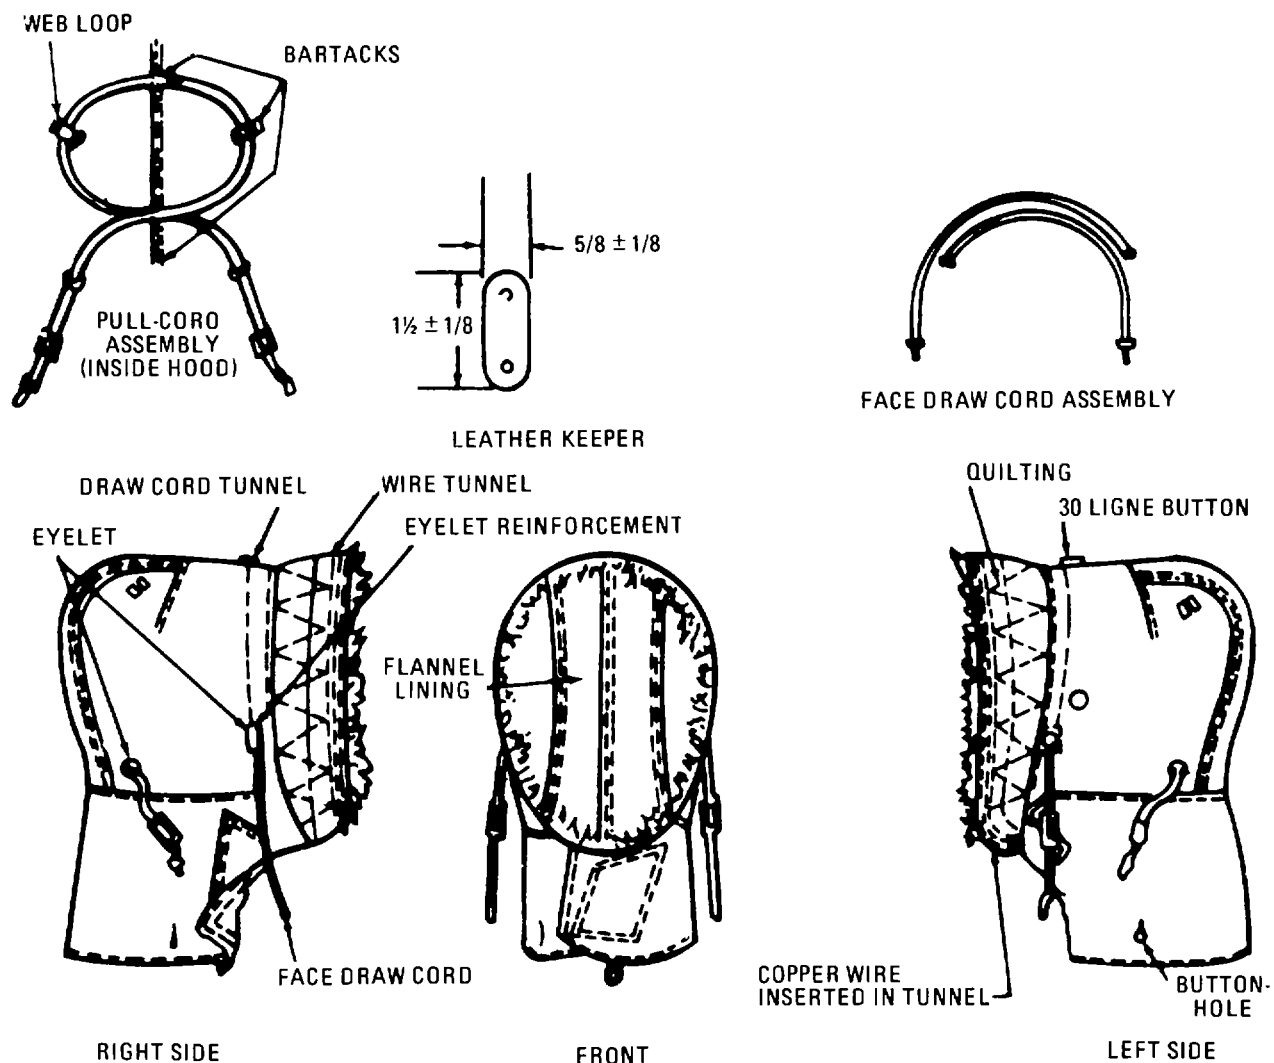

Figure 8-1. Hood, extreme cold weather, w/fur ruff, OG 107, M-65.
- a. Hood, Extreme Cold Weather, with fur ruff, olive green shade 107, M-65, MIL-H-43555 NSN 8415-00-782-3004. This item is fabricated essentially of cotton warp and nylon filled oxford cloth, 5.3 ox., olive green shade 107, with fur ruff and is designed for wear in extremely cold climates. It is an adjustable head covering which is worn over any combination of headgear. The hood is issued in only one size and should be adjusted to fit (see figure 8-1)
- (4) Replacements.
- (b) Replace missing or defective drawcords with webbing specified in section III, cut as follows, and attach in same manner as the original. One end of each drawcord shall be tacked to brim and hood joining seam allowance through interlining and hood. Thread through eyelet and keeper. Knot ends and coat tips with cellulose acetate or cellulose butyrate to prevent fraying (fig. 8-1).
- (5) Sizing. After repair and/or laundering, size all Items, using tables listed below. Check sizes with original markings and change if necessary. Hoods that do not meet size requirements of table 8-2A below will not be reissued for wear. All size markings will be stamped out with indelible ink. Size all caps and hats in accordance with table 8-2. When measurements do not conform with the table, mark with the next lower size.